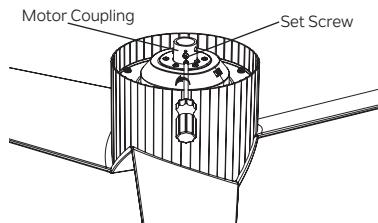

Fig. 9
**Step 3.** Loosen the two set screws on the motor coupling. (Fig. 9)